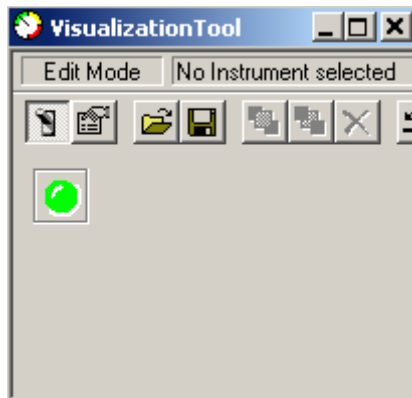

Figure 36. VisualizationTool with LED
4. Place the LED in the upper left side of the screen. Use the drag bars around the LED to increase the size. Reduce the size of the screen to for a better look. You must now have a window that looks like Figure 36.